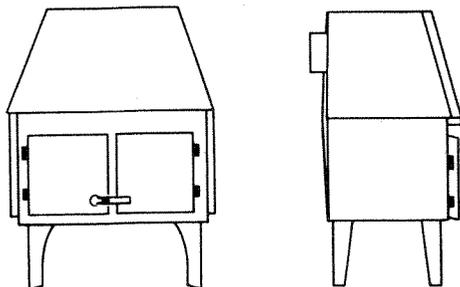

Fig. 46. Hede front view (left) and side view (right).
17. **Lyons Supply Co., Inc.** (importer), One Perimeter Rd., Manchester, NH 03108. The Hede (Fig. 46 and